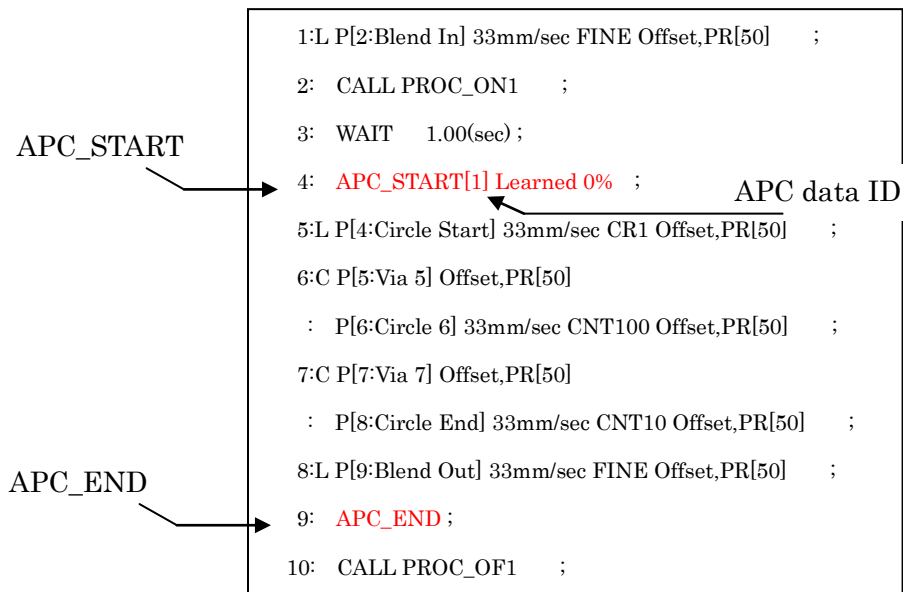

Fig. 7.4(a) An example TP program with Spot &amp; APC instructions
- 2 Insert APC\_START just before motion lines to be learned, as shown in Fig. 7.4(a).
- 4 Insert APC\_END just after motion lines to be learned, as shown in Fig. 7.4(a).